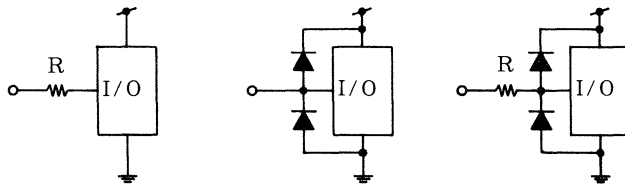

Fig. 9-15 Example of Latch-up Prevention Methods
(3) Countermeasures
As ample margin is provided for latch-up as explained in (2), there is no problem in using the unit within the standards. However, since the interface part has the possibility of receiving excessive surge, it is recommended that the protective circuit be added as indicated in Fig. 9-15.